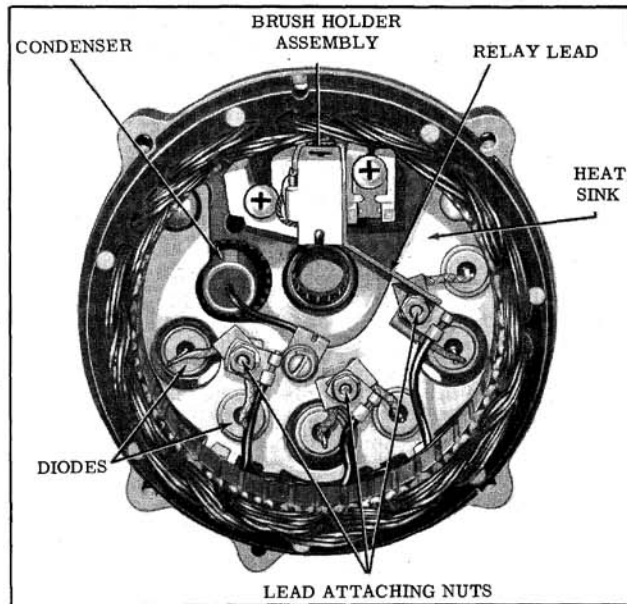

Fig. 13-42 Stator and Diode Leads
6. Position the stator into the slip ring end frame with the stator leads aligned with the stator and diode lead attaching studs. Before installing the attaching nuts, position the relay lead over the diode lead attaching stud. Tighten all nuts. (Fig. 13-42)